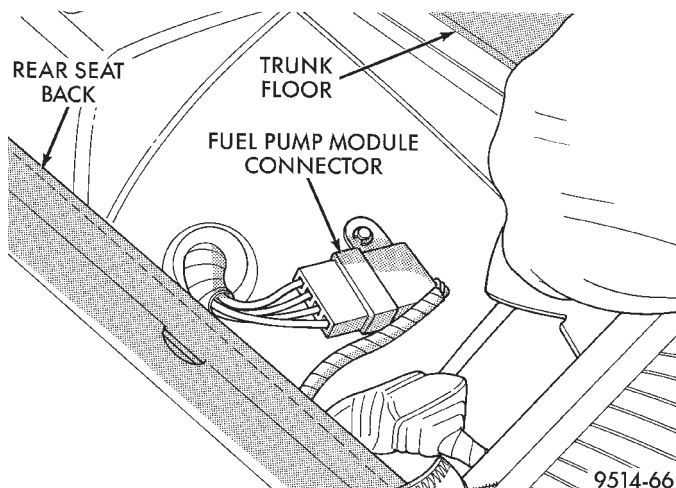

Fig. 57 Fuel Pump Module Electrical Connector
(23) Inspect the fuel pump module electrical connection in the trunk for corrosion or damage (Fig. 57).
(24) Inspect the connections to the speed control servo, if equipped. Refer to Group 8H, Vehicle Speed Control.